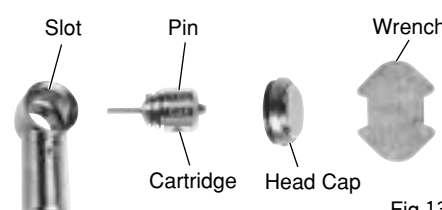

Fig.13
(2) Inserting the new cartridge
- ① Insert the new cartridge, with its pin aligned in the slot of the handpiece head, straight into the handpiece.
- ② Hand tighten the cap until finger tight and secure with wrench until the cap sets in place. (Fig.13)